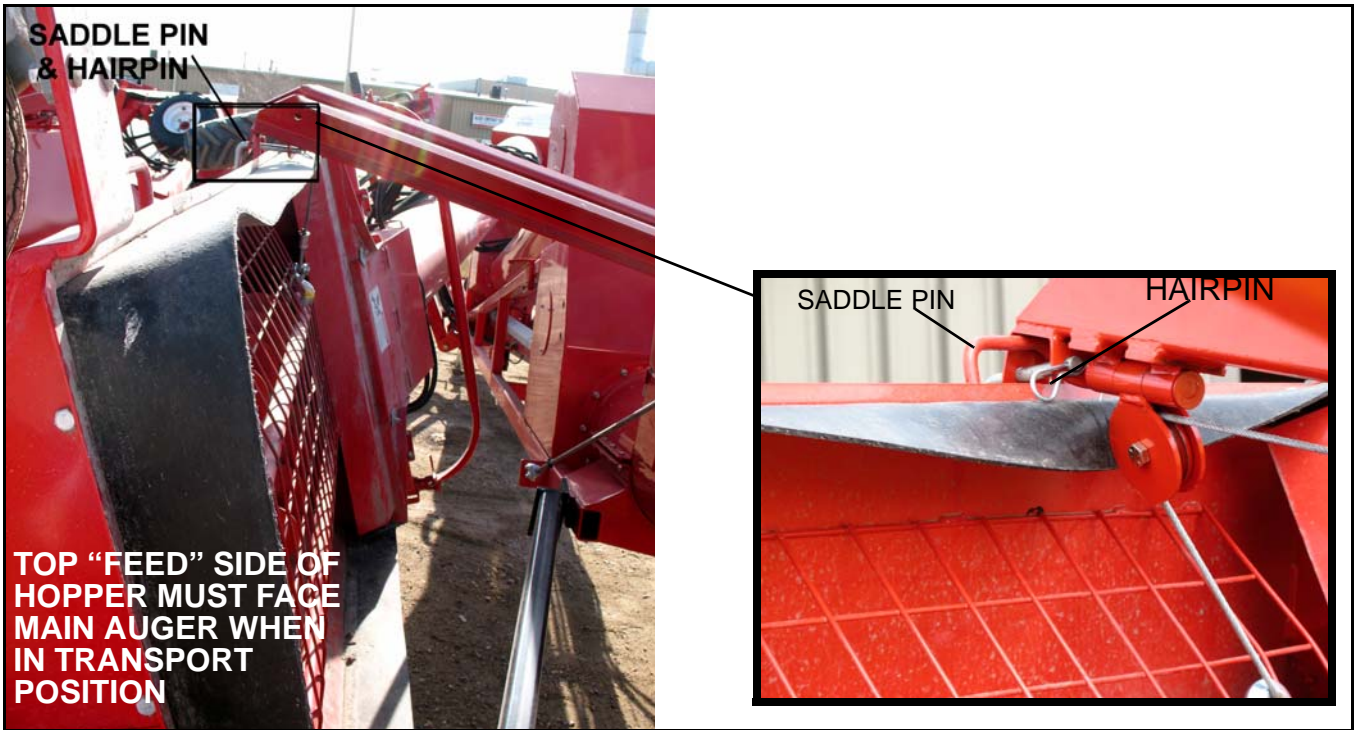

Figure 4.1
4. Intake feed hopper is raised into transport position, lift cable is connected to and secured with saddle pin and hairpin (see Figure 4.1).